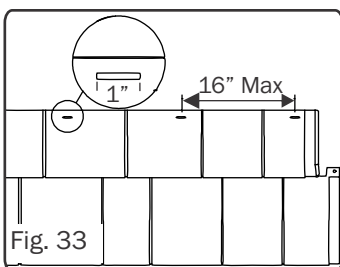

Fig. 33
- Create nail slots using a nail slot tool, router, etc. to secure the panel(s) while still allowing them to expand and contract. Make certain that the slot is larger than the shaft of the fastener but smaller than the head (Figures 33, 34).